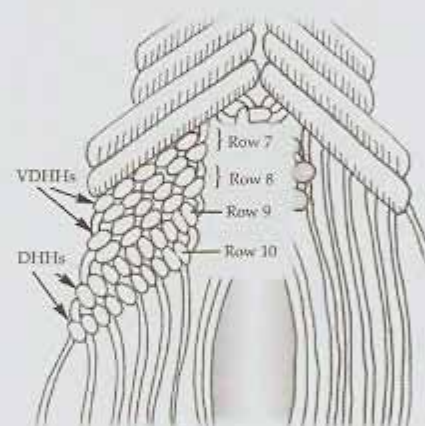

Fig. 5
20. Row 9, Right Side - Take Cd #6 and bring it to the left and make a row of **DHHs** with Cds # 5 - 1 (see Figure 5).